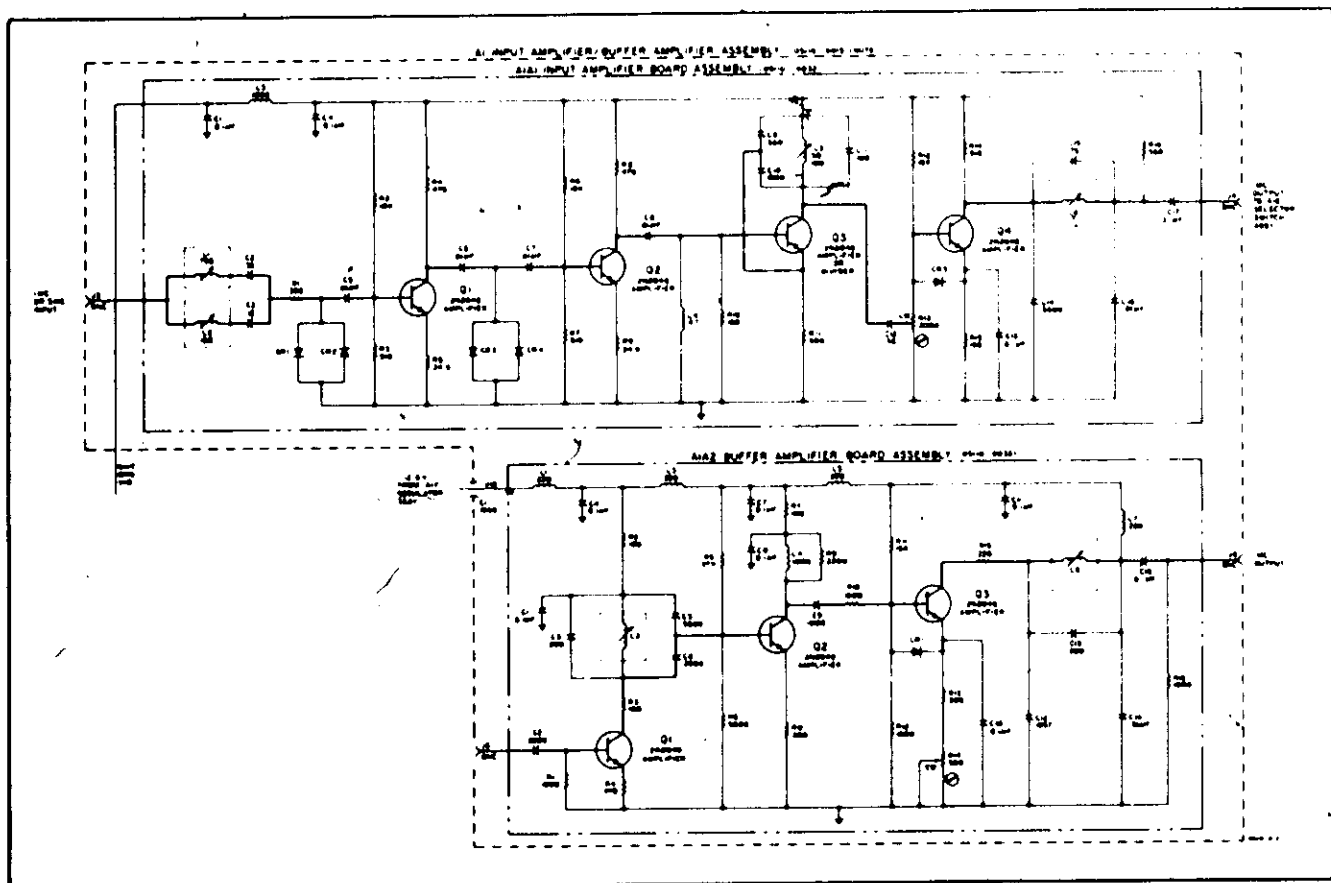

Figure 8-4. Input Amplifier A1 Changes
- Input Amplifier/Buffer Amplifier Module A1 was as shown in Figure 8-4.